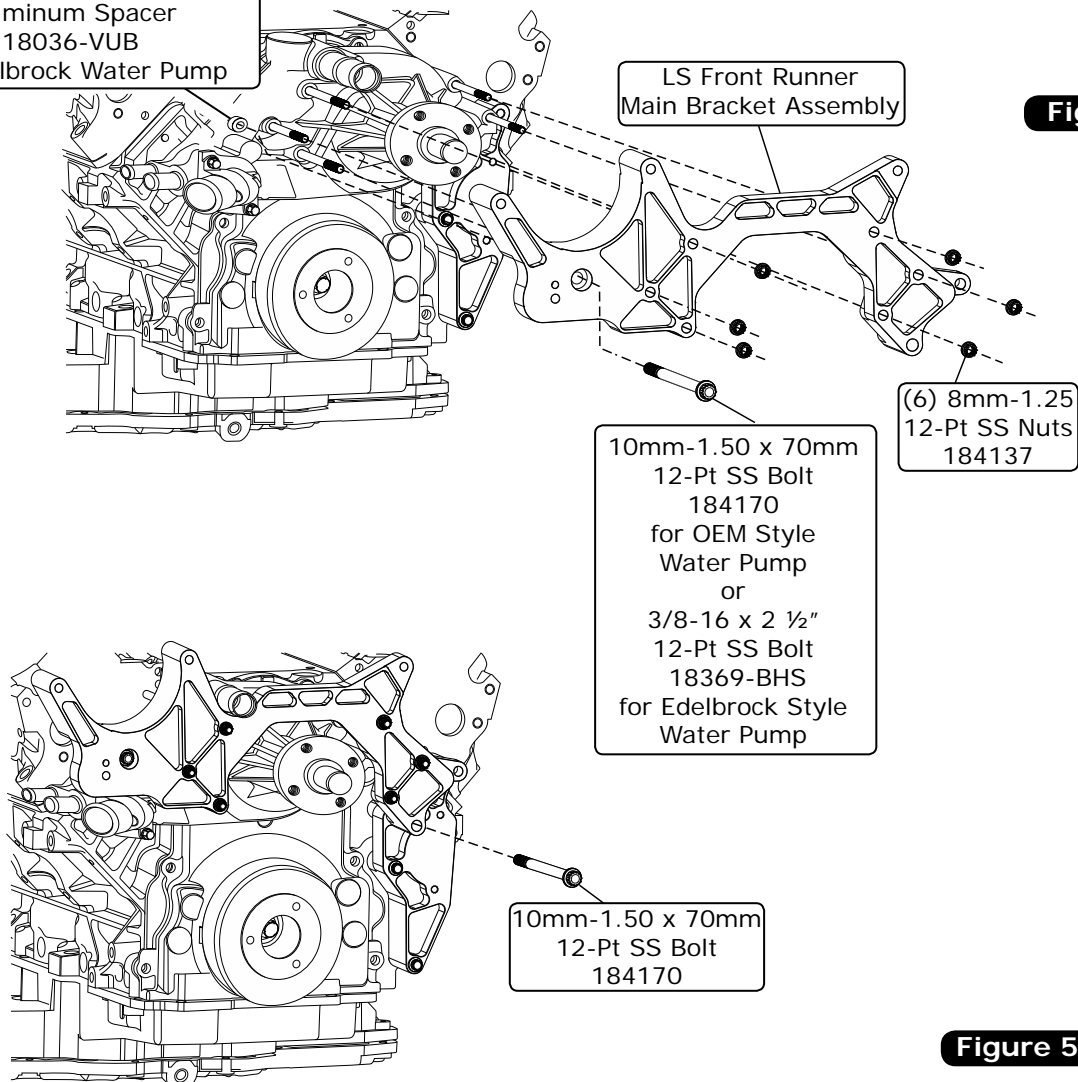

Figure 5
1. Install the Front Runner main bracket assembly over the water pump and 8mm-1.25 x 130mm mounting studs using (6) 8mm-1.25 12-Pt SS nuts (See Figure 5, below). **NOTE: Do not torque the fasteners at this time.**